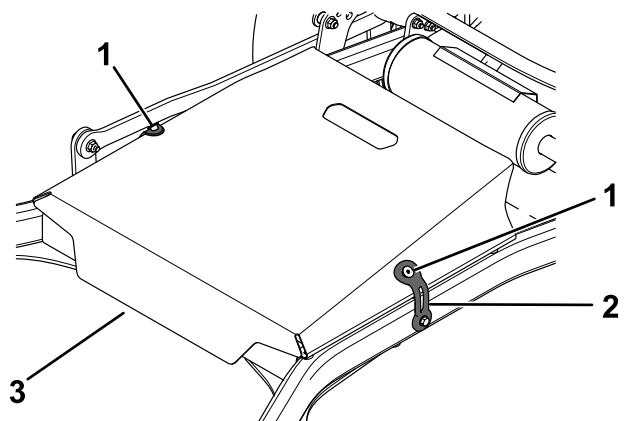

Figure 25
3. Unlatch the 2 rubber latches from the screws and remove the deck cover (Figure 25).